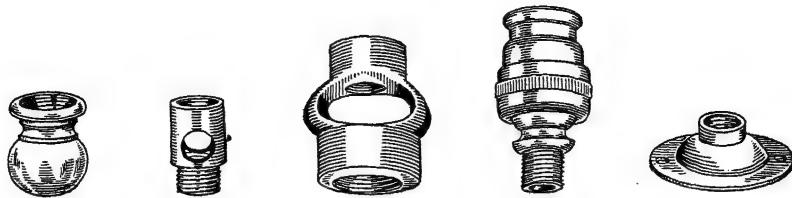

Fig. 225.
*Cord Outlet.* Figure 225 shows a cord outlet which is useful for locking a socket to a lamp bracket and allows a cord to enter through the outlet to the socket. These outlets usually are made of brass and have a  $\frac{1}{8}$ -in. pipe, inside thread.